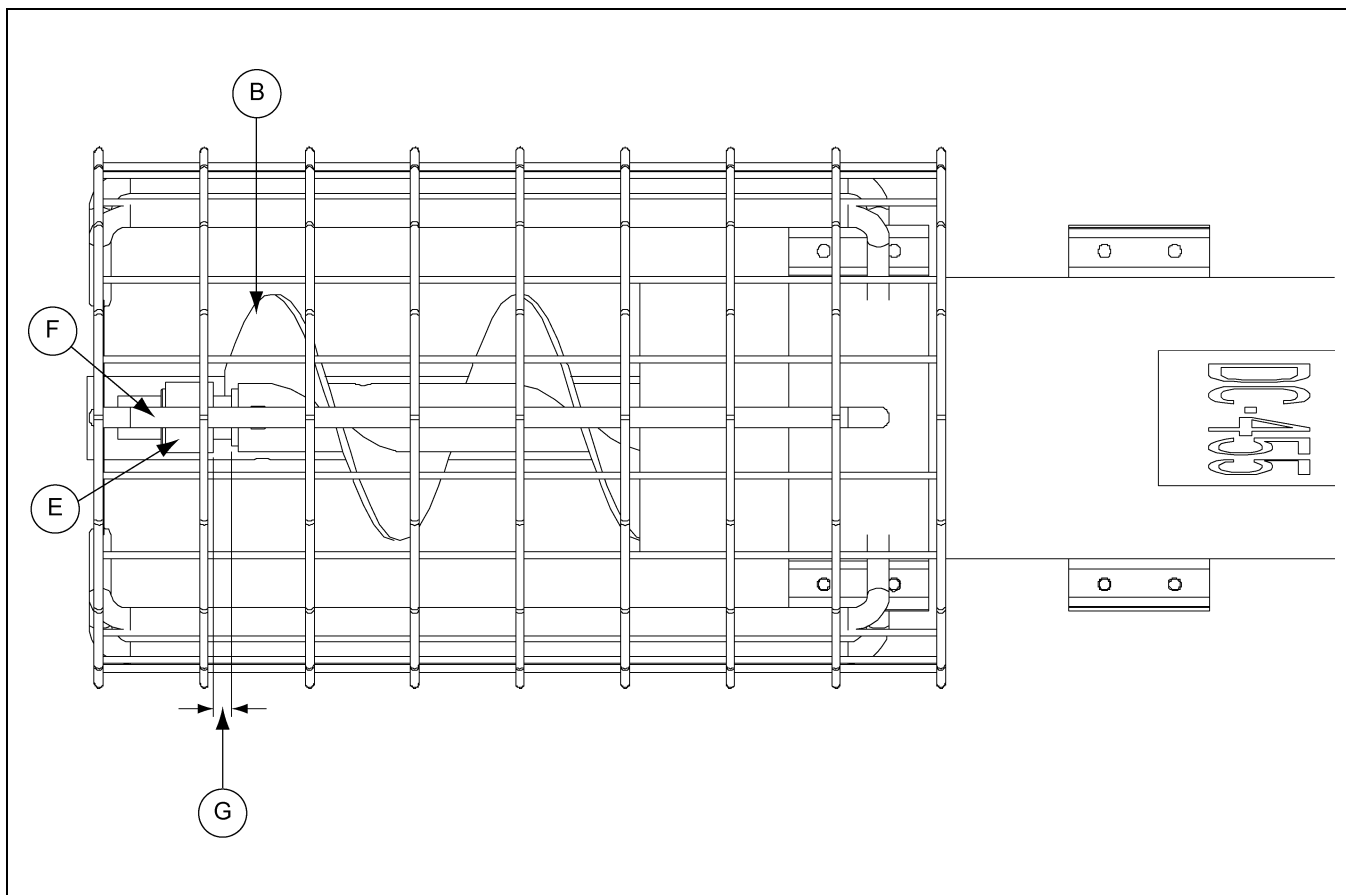

Figure 4H
2. With the intake shaft (E) inserted in the bushing (F) make sure to leave approximately 1/2" of clearance between the end of the flight (G) and the face of the bushing (F). (See Figure 4H.)